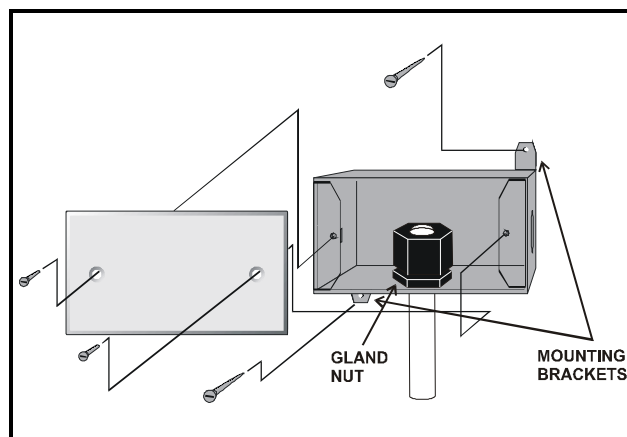

Figure 3-25 - Duct-mounted RH Sensor - Exploded View
- Bolt the sensor enclosure against the outside of the duct wall so that the sensor element fits through the hole and into the duct. The enclosure may be mounted horizontally, as shown in **Figure 3-25** or vertically. The screws should be tight enough for the foam gasket around the bottom of the sensor to form an airtight seal between the hole in the duct wall and the outside air.